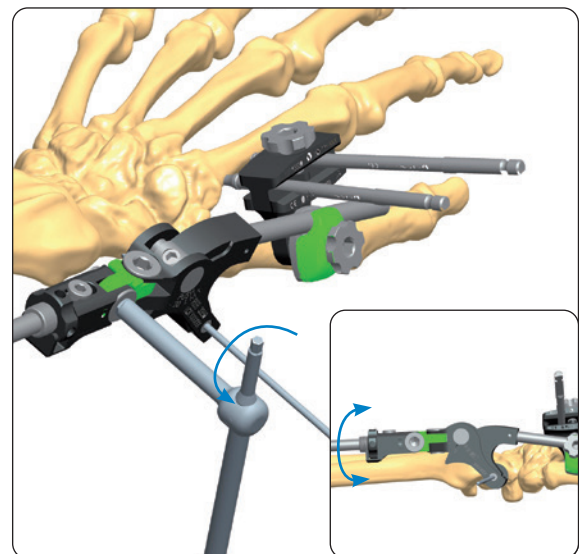

Fig. 18
- Loosen the AP Locking Screw of the central joint (**Fig. 18**)